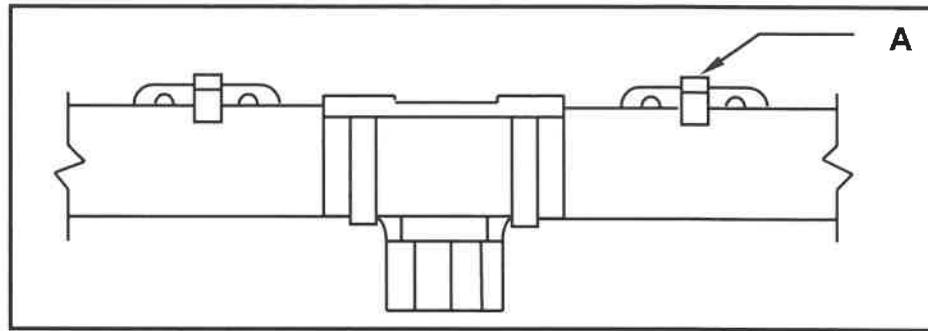

FIGURE 5.1
- 5.1 FIGURE 5.1 below shows different parts for the installation of a PVC gutter. Study the drawing and answer the questions that follow.